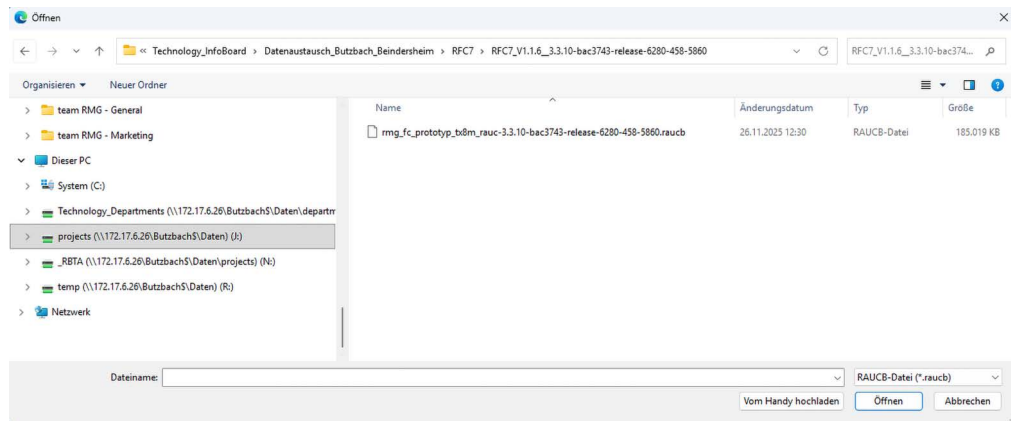

Fig. 105: Windows Explorer window
- ➔ A Windows Explorer window opens (see fig. 105)